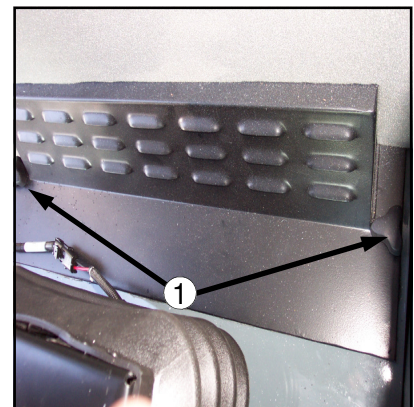

FIG 7.90-2
To remove, clean, or replace the filters in the cab, undo the thumb screws on the cover (figure 7.90-2, item 1) and carefully remove the filters. Wipe the cover clean with a damp cloth and allow to dry before replacing.